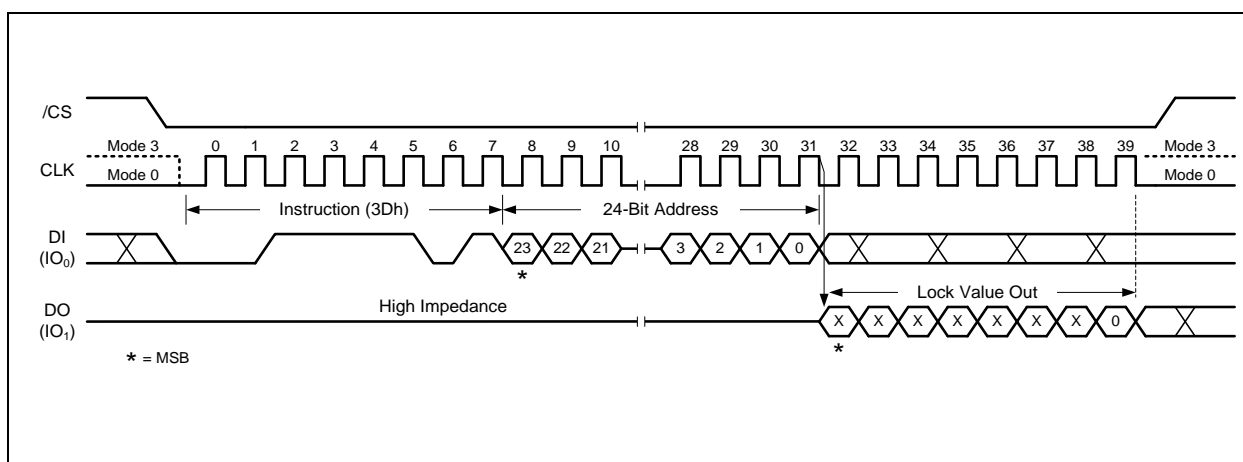

Figure 57. Read Block Lock Instruction
To read out the lock bit value of a specific block or sector as illustrated in Figure 4d, a Read Block/Sector Lock command must be issued by driving /CS low, shifting the instruction code "3Dh" into the Data Input (DI) pin on the rising edge of CLK, followed by a 24/32-bit address. The Block/Sector Lock bit value will be shifted out on the DO pin at the falling edge of CLK with most significant bit (MSB) first as shown in Figure 57. If the least significant bit (LSB) is 1, the corresponding block/sector is locked; if LSB=0, the corresponding block/sector is unlocked, Erase/Program operation can be performed.